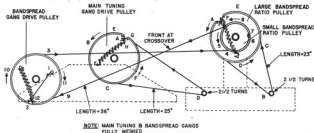

Fig. 8. Dial Cord Stringing Diagram
**DIAL CORD RESTRINGING** - To restring the main tuning or bandspread dials, first remove the chassis and front panel from the cabinet by removing the six screws on the underside of cabinet and the two screws on each side of the cabinet. (The chassis and front panel are removable as a single unit.) Then remove the front panel from the chassis by removing the control knobs, the toggle switch mounting nuts, and the three screws near the bottom of the front panel. Finally, remove the tuning dials. For stringing details, refer to Fig. 8. Note that stringing is accomplished with the main tuning and bandspread gangs fully meshed. After stringing is completed, cut off the excess dial cord and apply a drop of quick drying cement to the knots. With the gangs fully meshed, replace the dials so that the index marks at the low frequency end of the dial are vertical.